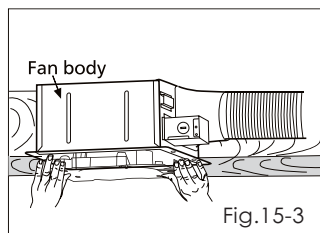

Fig.15-3
7. Insert the blower into the fan body. (Fig. 15-3)